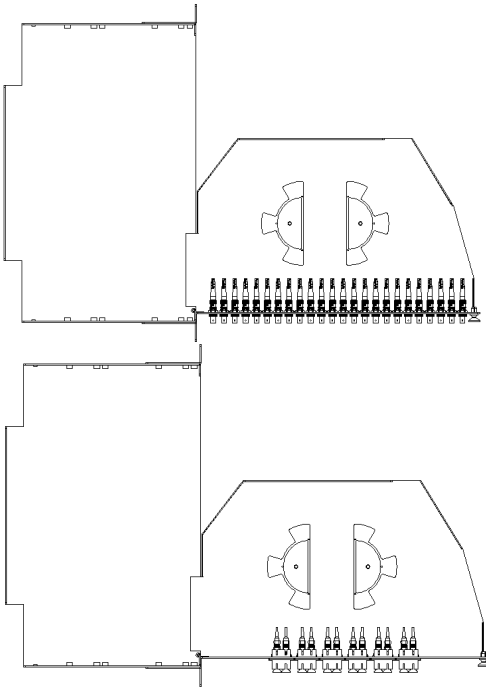

Figure 5. Rackmount Fiber Patch Panel with tray open.
4. Install the fiber cables in the preloaded adapters on the pull-out tray. See Figure 5 on the next page.